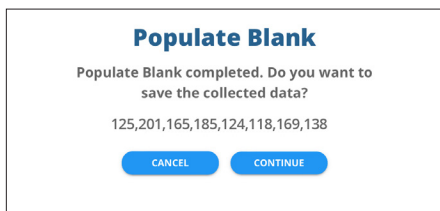

Fig. 32—The message indicates that the blank measurements have completed.
- After the measurement is completed, a message appears (Fig. 32). Press *OK* to complete the sequence. You may re-sample the blanks as many times as desired, now or in the future.